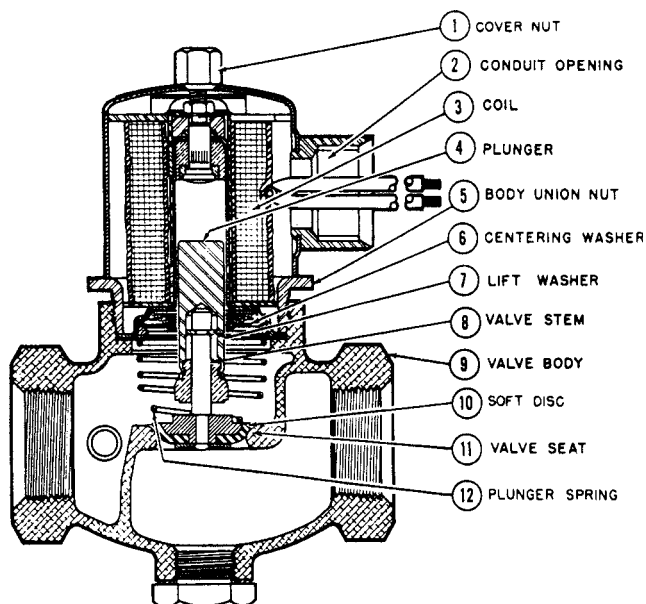

Fig. 4-4 Solenoid for controlling natural gas flow to a hot-air furnace. (Honeywell)
Figure 4-4 shows a solenoid for controlling natural gas flow in a hot-air furnace. Note how the coil is wound around the plunger. The plunger is the core of the solenoid. It has a tendency to be sucked into the coil whenever the coil is energized by current flowing through it. The electromagnetic effect causes the plunger to be attracted upward into the coil area. When the plunger is moved upward by the pull of the electromagnet, the soft disk (10) is also pulled upward, allowing gas to flow through the valve. This basic technique is used to control water, oil, gasoline, or any other liquid or gas.